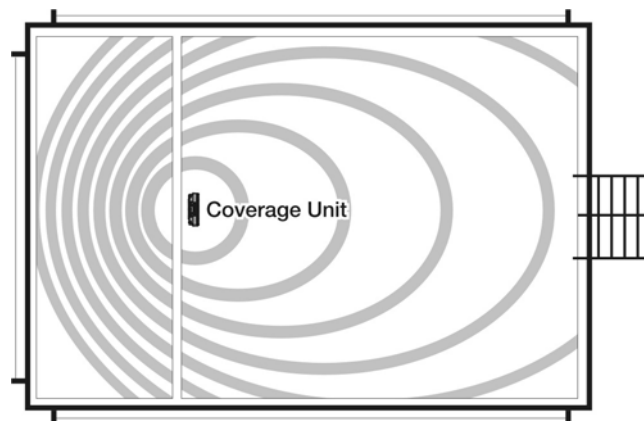

Figure 2.8: Back and front coverage pattern
When mounting the CU on a ceiling, the unit should be positioned in the middle of the area to be covered side-to-side, and off-centered front-to-back. Figure 2.8 shows the coverage area when the CU is mounted closer to the center of room or if mounted on a typical interior drywall partition. The back coverage area is reduced further if the partition wall is constructed of a dense material such as concrete or brick.
- the Auxiliary CU should be positioned in the middle of the coverage area, side-to-side, and off-centered slightly front-to-back, approximately as shown in Figure 2.8.